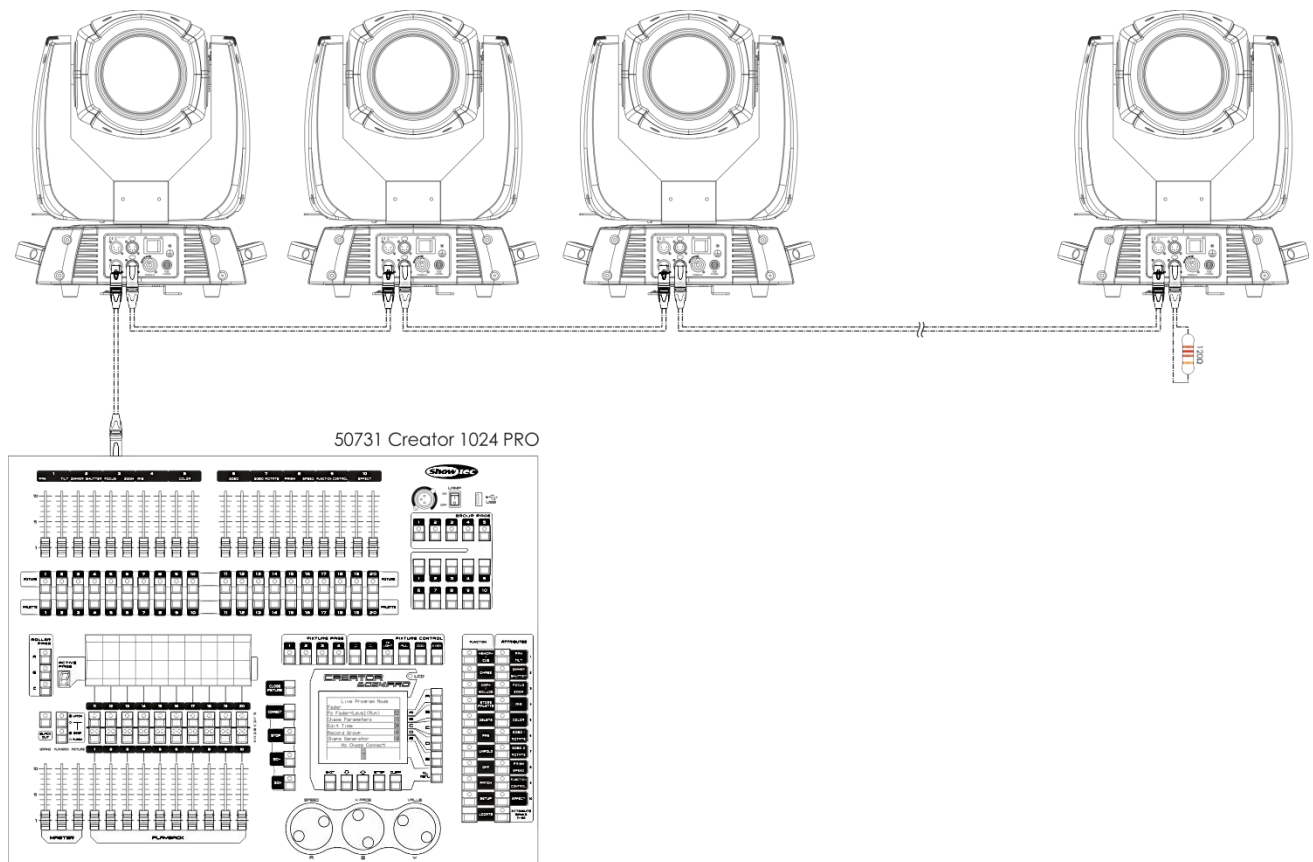

Fig. 09
- 05) Link the units as shown in fig. 09. Connect a DMX signal cable from the first unit's DMX "out" socket to the second unit's "in" socket. Repeat this process to link the second, third, and fourth units.